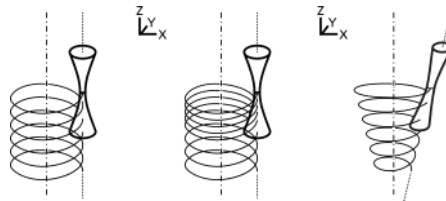

Figure 5.3: Helices
**Helices - 3rd axis** In addition to the planar focus motions that trace out circles, ellipses and spirals, a superimposed variation of the Z-axis parameter, or focus shift, produces helical or conical focus motions with variable slope. Figure 5.3 on page 80 illustrates this.